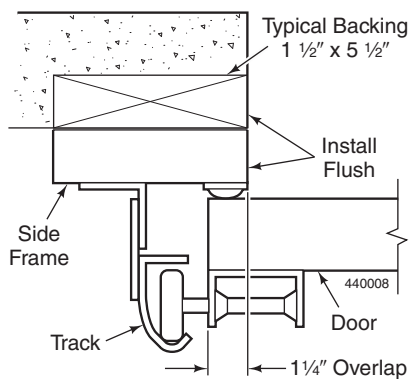

Figure 5
3. Before installing the door frame check for proper backing in the wall. See *Figures 5 & 6*.